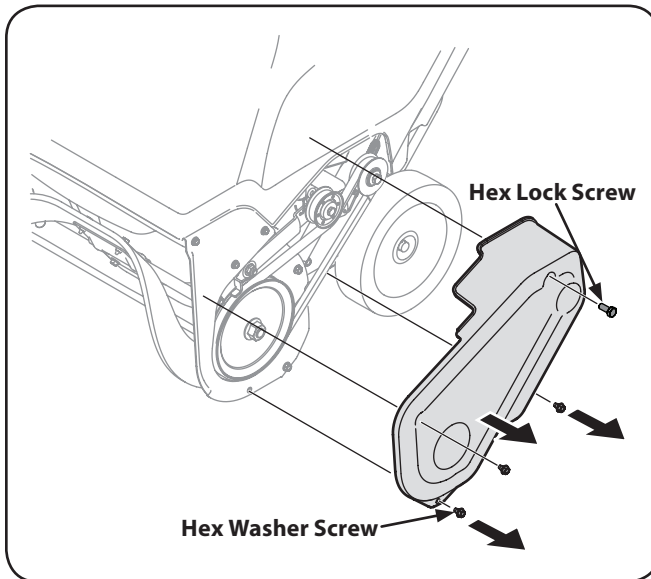

Figure 7-1
4. Remove the belt cover by removing the three hex washer screws and one hex lock screw that secure it to the frame. See Figure 7-1.